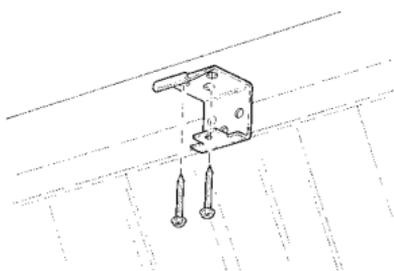

Figure B6
5. Mount the bracket using two of the screws provided. (See Figure B6)